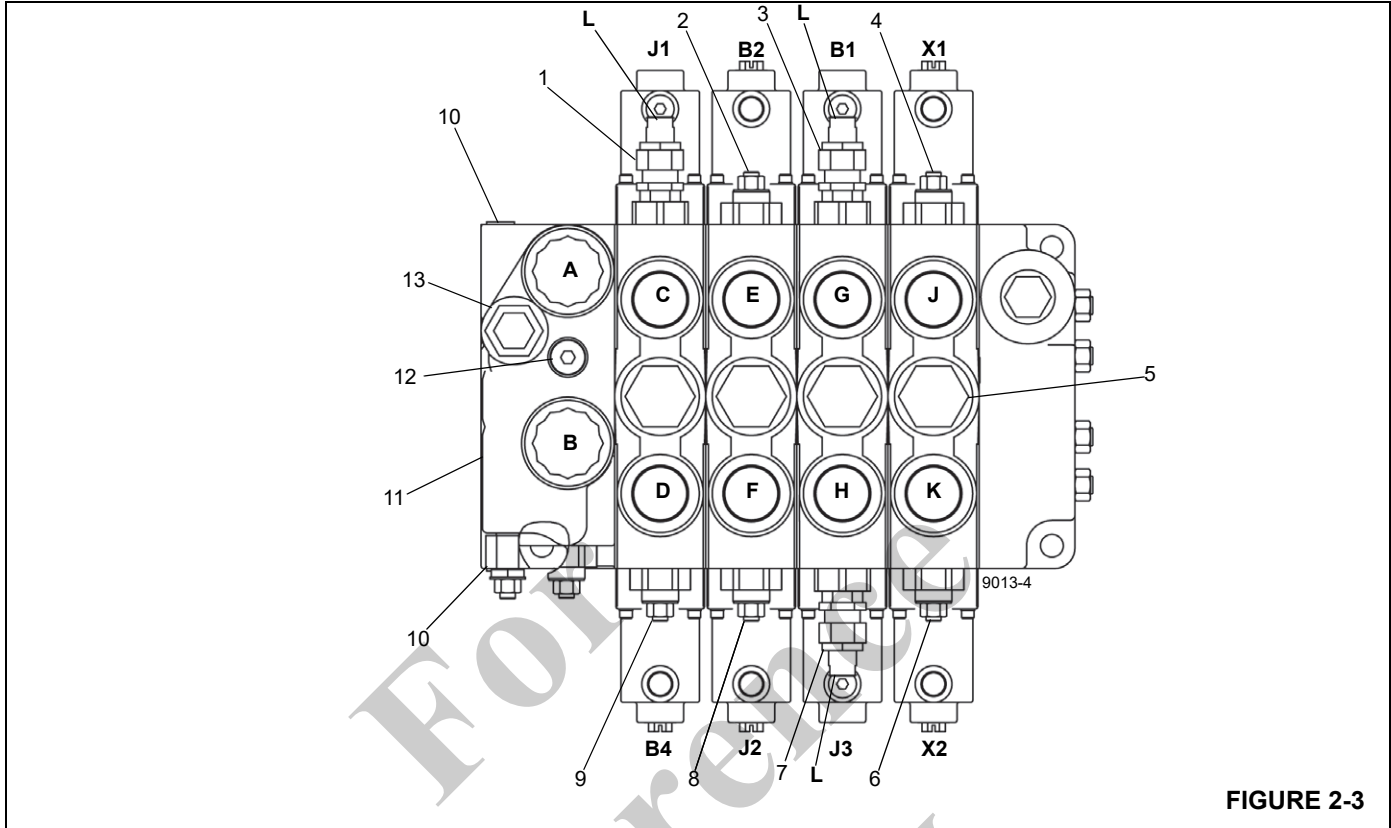

FIGURE 2-3
See Figure 2-3 for the following procedure.
1. With the engine off, install a pressure check diagnostic quick disconnect (Parker PD240) with gauge onto the test nipple at the GP gauge port of the DCV (see Figure 2-3).